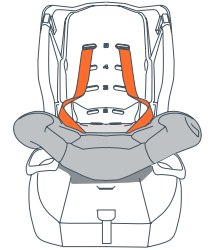

Fig. 32a
- Loosen harness by pressing the center adjuster and pulling on harness. Pull top of seat fabric down to expose the forward belt path (Fig. 32a).